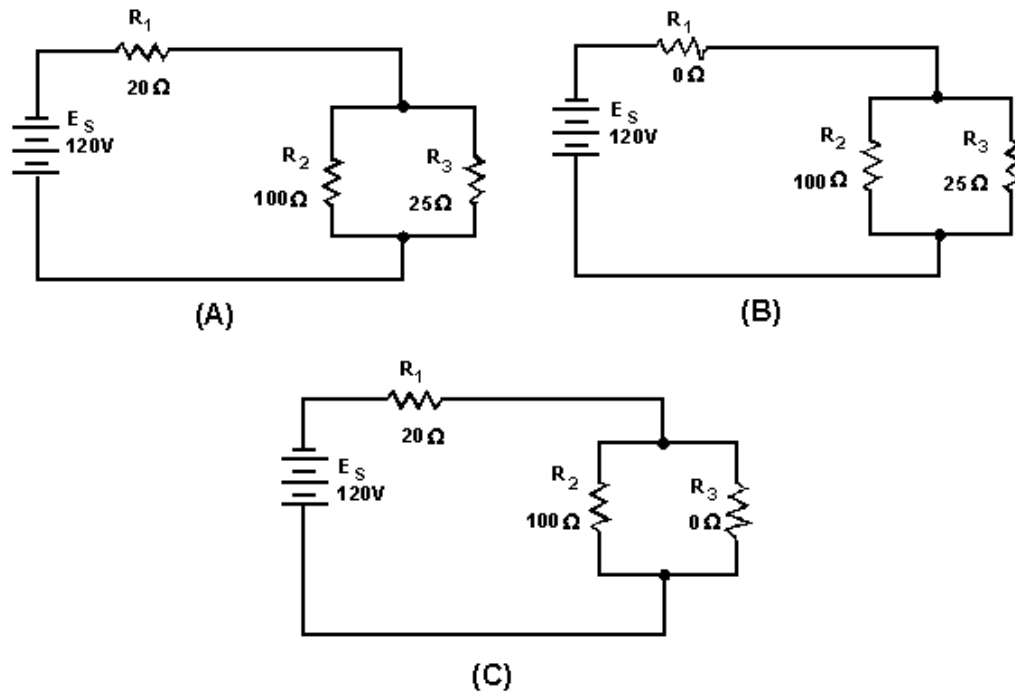

Figure 3-62.—Series-parallel circuit with shorts.
circuit involved. To illustrate this point, figure 3-62 shows a series-parallel network in which shorts are developed. In figure 3-62 (A) the normal circuit is shown. $R_T = 40$ ohms and $I_T = 3$ amps.
In figure 3-62 (B), R_1 has shorted. R_1 now has zero ohms of resistance. The total of the resistance of the circuit is now equal to the resistance of the parallel network of R_2 and R_3 , or 20 ohms. Circuit current has increased to 6 amps. All of this current goes through the parallel network (R_2 , R_3) and this increase in current would most likely damage the components.
In figure 3-62 (C), R_3 has shorted. With R_3 shorted there is a short circuit in parallel with R_2 . The short circuit routes the current around R_2 , effectively removing R_2 from the circuit. Total circuit resistance is now equal to the resistance of R_1 , or 20 ohms.